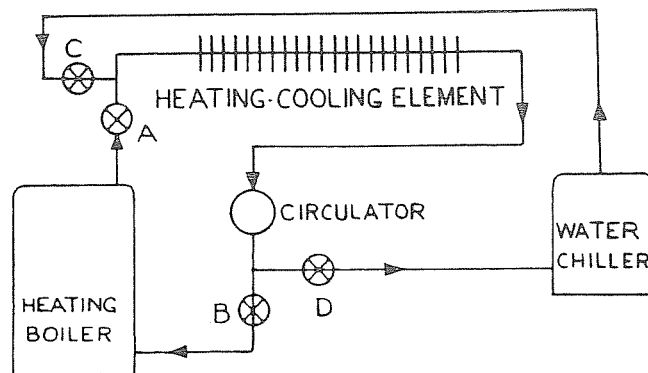

Figure 2
**CONNECT SUPPLY AND RETURN PIPING** as suggested in Fig. 2. When the boiler is used in connection with refrigerated systems, the chilled medium must be piped in **PARALLEL** with the boiler, with appropriate valves to prevent the chilled medium from entering the heating boiler. Heating cycle—open valves A and B, close C and D. Cooling cycle—open valves C and D, close A and B. Fig. 2.